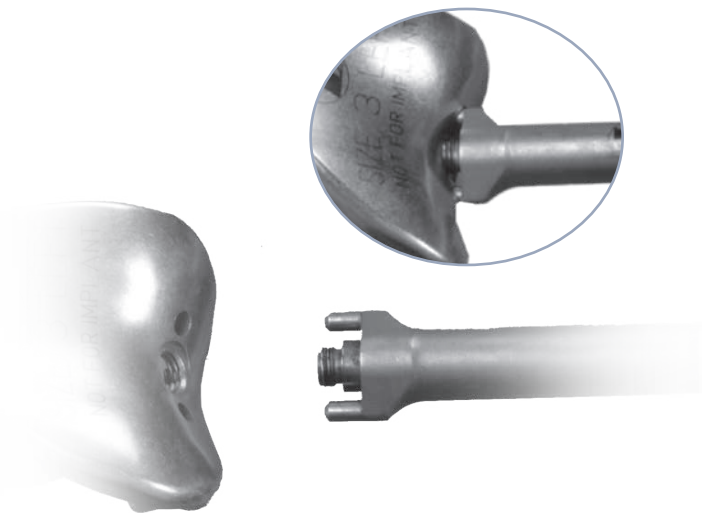

Fig. 55
- Attach the Inserter/Extractor handle to the PFJ Provisional (trochlea) (Fig. 55).